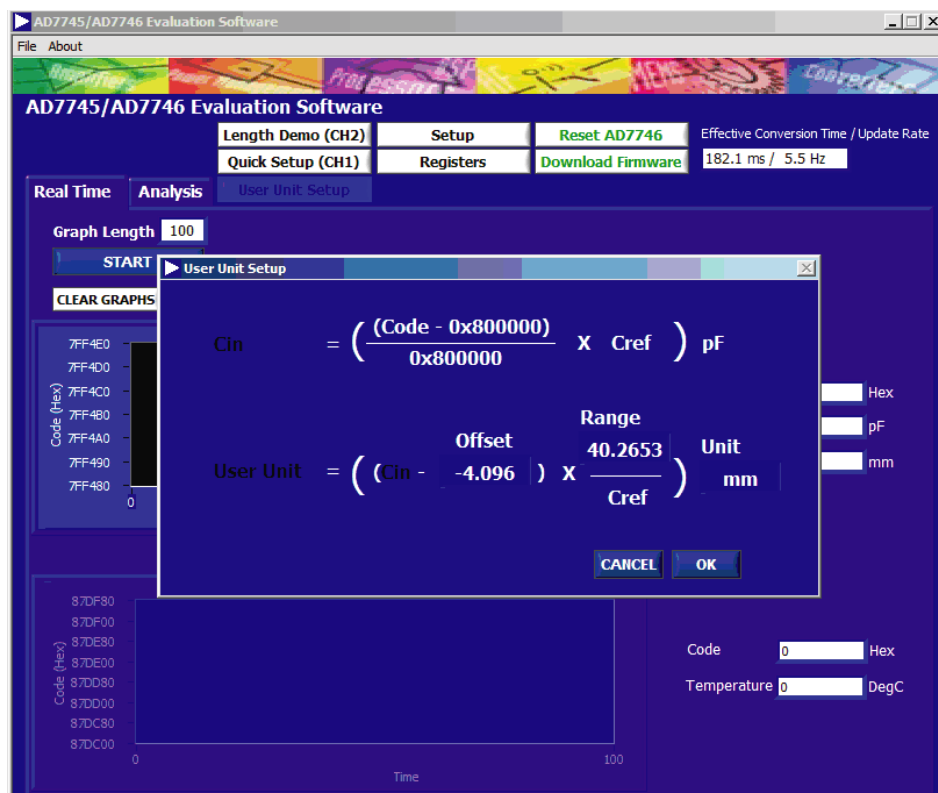

Figure 12. User Unit Setup Window
1. On the **Real Time** tab, click **User Unit Setup**. The **User Unit Setup** window appears (see Figure 12).